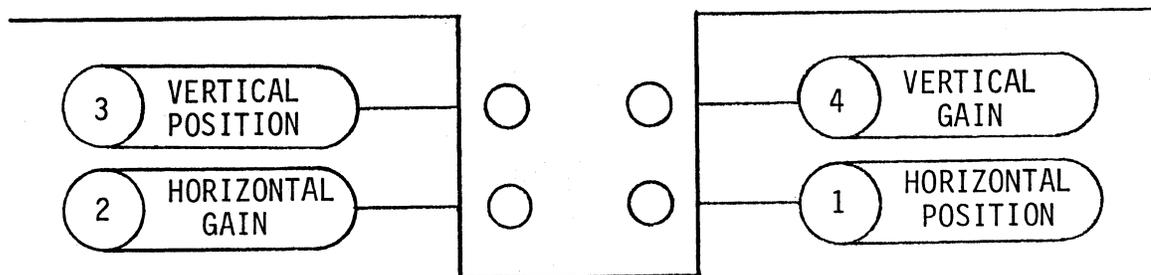

Fig. 3-2 Adjustments for Calibrating the Display
- e. Remove right side panel (when facing the front) from the oscilloscope. Four adjustments in the 7530A, labeled as indicated in Fig. 3-2 will be seen.